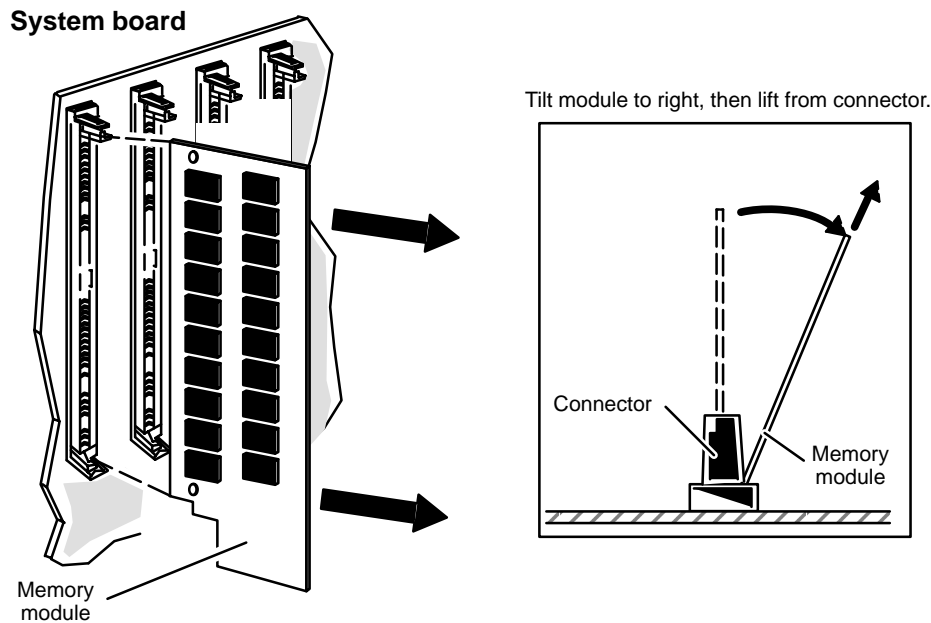

Figure 8-5 Removing a Memory Module
2. With the locking tabs released, raise the memory module to about a 20°–30° angle as shown in Figure 8-5, then *gently* pull the module from its connector.